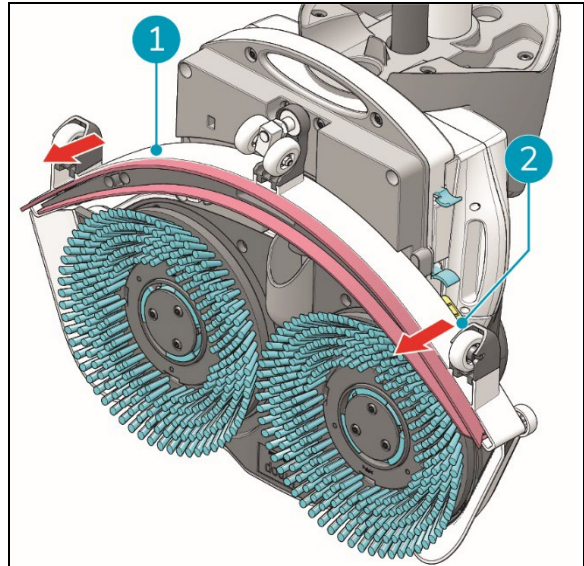

Figure 29
3. Pull on the left side of the squeegee to remove it (Figure 29, pos. 1).
4. Pull on the right side of the squeegee to remove it (Figure 29, pos. 2).